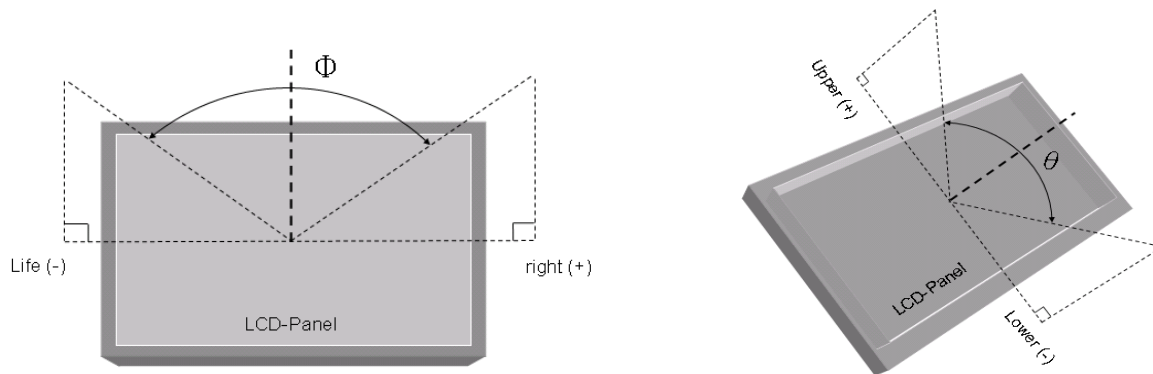

Fig8-2 Definition of Viewing Angle
*6) Definition of Viewing Angle(θ, ψ), refer to Fig8-2 as below : These items are measured by EZ-CONTRAST (ELDIM) in the dark room. (no ambient light).